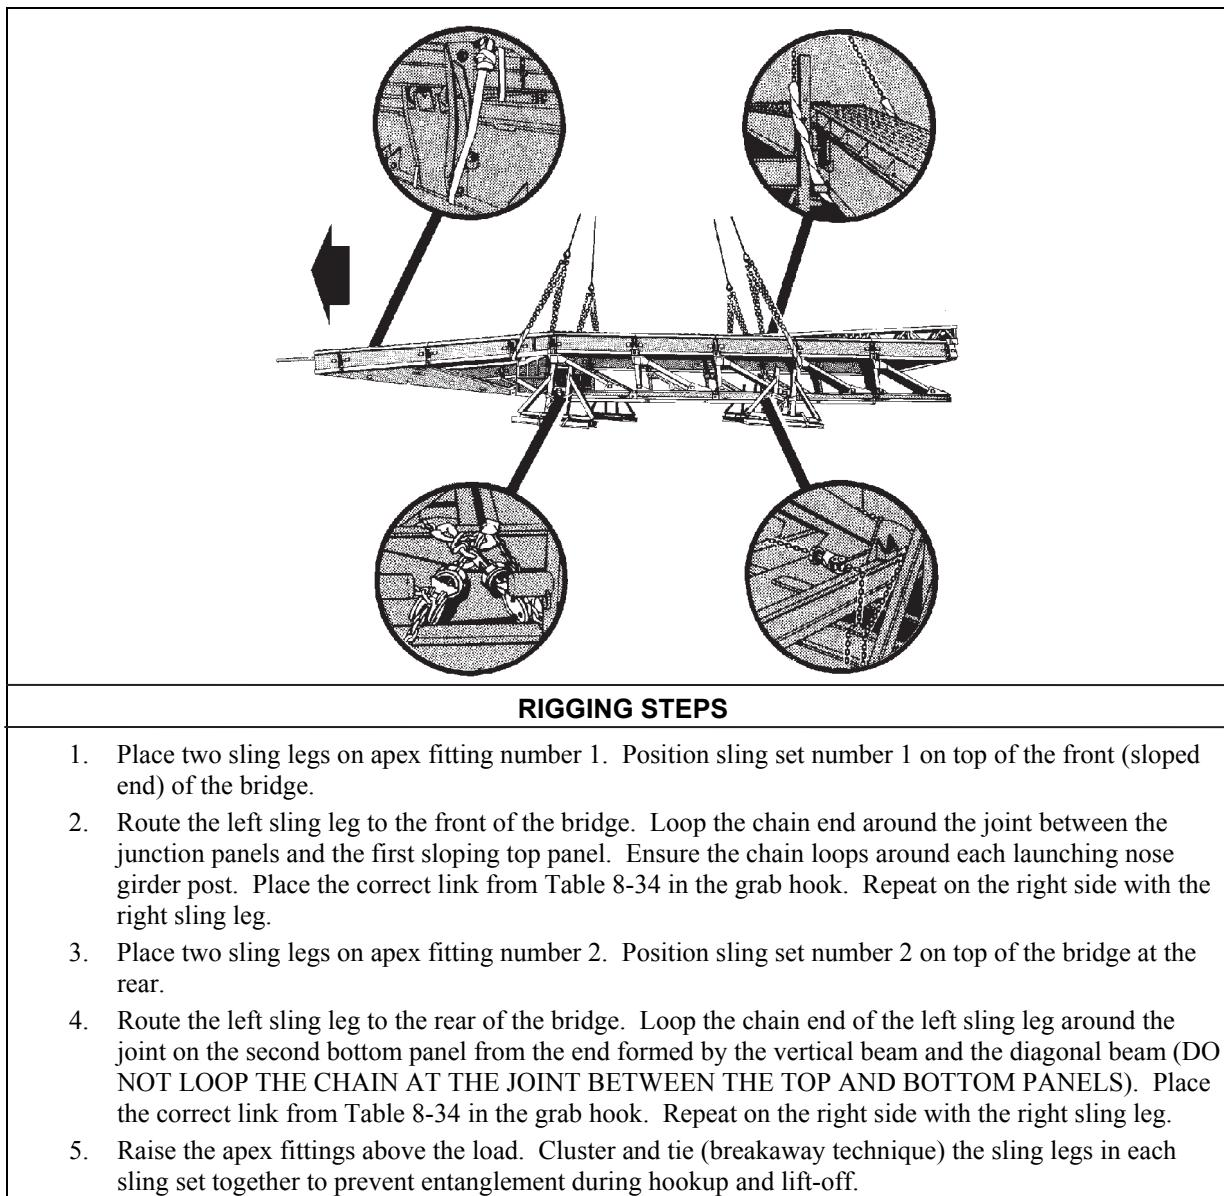

Figure 8-34. Medium Girder Bridge
- **Rigging.** Rig the load according to the steps in Figure 8-34.